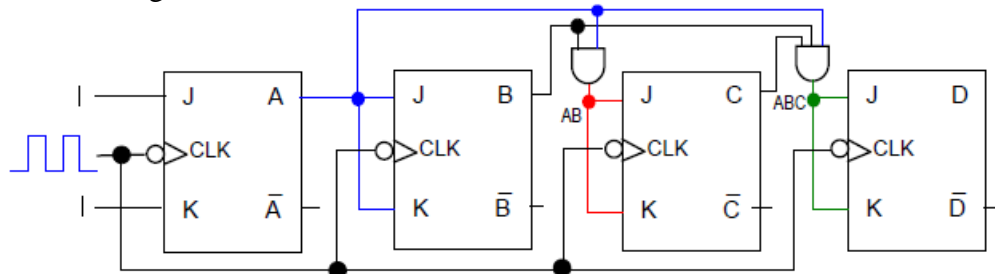

Figure 5: Mod-16 Synchronous Counter
- A Mod-X counter counts from 0 to X-1. For example, a mod-6 counter give an output sequence as follow: 0,1,2,3,4,5,0,1,2,3... A mod-16 synchronous counter is shown in figure 5.